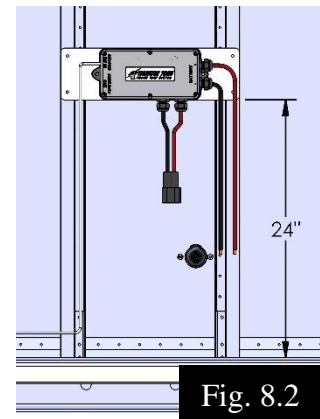

Fig. 8.2
1. Choose a location inside the nose of the trailer between the two center Z-posts above the king pin. Fig. 8.2.